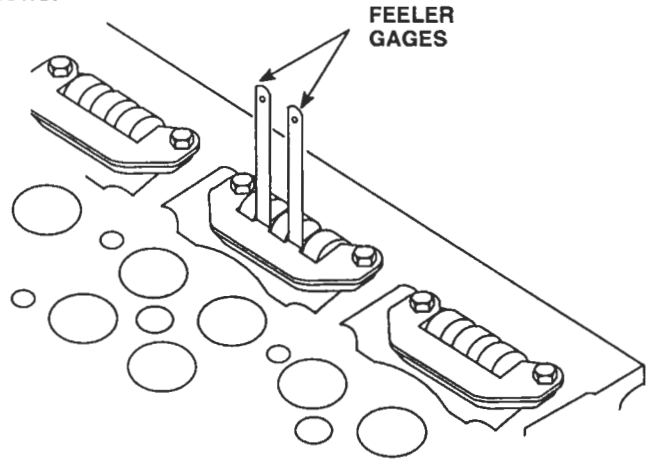

Figure 8. Checking Cam Follower to Guide Clearance and Adjusting Cam Follower Guide
5. Check to be sure there is at least .005 inch clearance between the cam follower legs and the cam follower guide (Figure 8.)